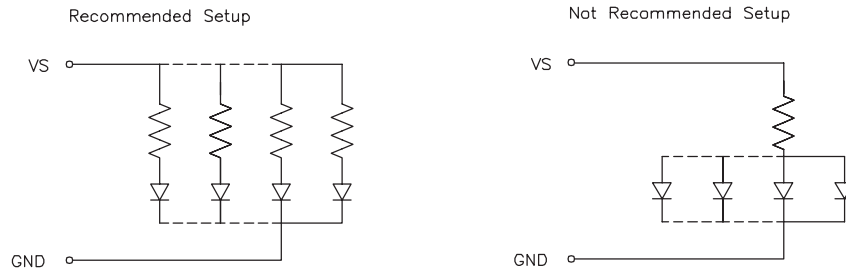

Fig. 10
- When LEDs are mounted in a parallel configuration, there should be individual current-limiting resistors in series with each LED. Refer to below diagram (Fig.10) for an example of a recommended set up.